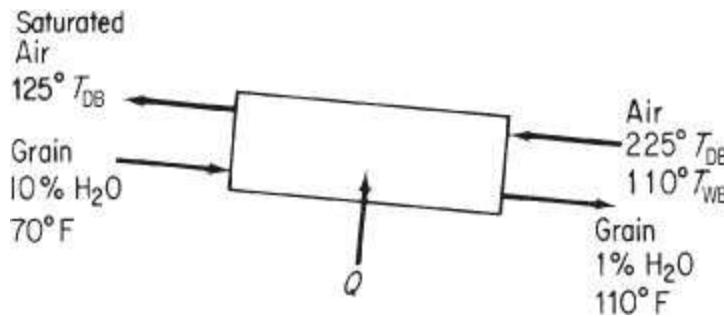

Figure P11.3.1
****11.3.1.** A rotary dryer operating at atmospheric pressure dries 10 tons/day of wet grain at 70°F , from a moisture content of 10% to 1% moisture. The airflow is countercurrent to the flow of grain, enters at 225°F dry-bulb and 110°F wet-bulb temperature, and leaves at 125°F dry-bulb. See Figure P11.3.1. Determine (a) the humidity of the entering and leaving air if the latter is saturated; (b) the water removal in pounds per hour; (c) the daily product output in pounds per day; (d) the heat input to the dryer.